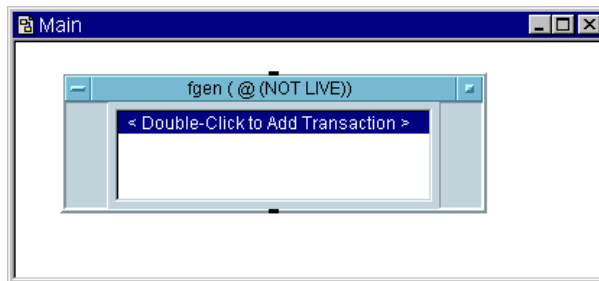

Figure 3-16. A Direct I/O Object
4. To place the object on the screen, make sure that `fgen (@ (NOT LIVE) )` is still highlighted, and click `Create I/O Object ⇒ Direct I/O`. Figure 3-16 shows the Direct I/O object.